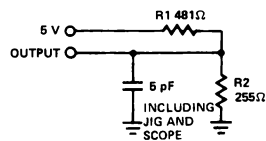

Figure 1b
- At any given temperature and voltage condition, t_{HZ} is less than t_{LZ} for all devices. Transition is measured ± 500 mV from steady state voltage with specified loading in Figure 1b. These parameters are sampled and not 100% tested.